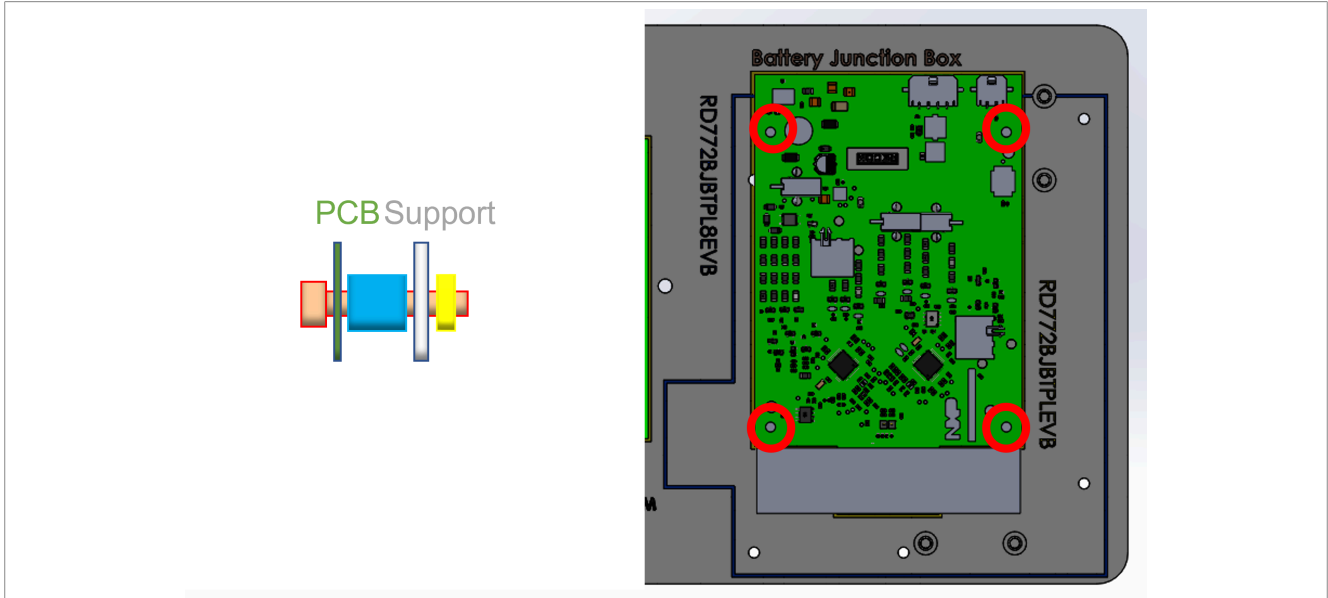

Figure 13. Battery junction box mounting procedure
1. Mount the BJB to the top plate using four screws (280-78012), four standoffs (280-78015) and four nuts (280-76566) according to Figure 13.